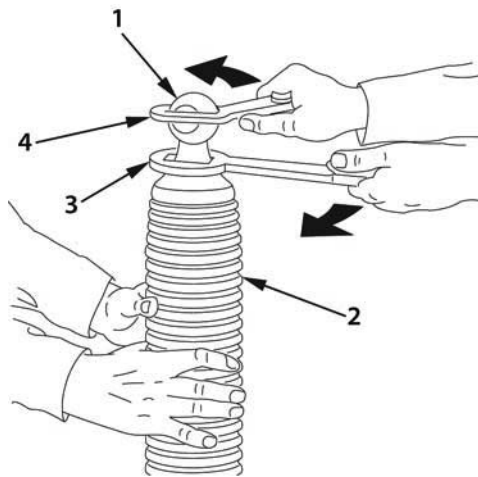

Figure 2. Removal of Breech Plug.
2. Place open end of cannon (Figure 2, Item 2) on flat surface and have one mechanic hold it securely.
3. Position barrel wrench (Figure 2, Item 3) on cannon (Figure 2, Item 2) and position plug wrench (Figure 2, Item 4) on breech plug (Figure 2, Item 1) as shown.
4. Turn barrel wrench (Figure 2, Item 3) clockwise while turning plug wrench (Figure 2, Item 4) counterclockwise.
5. Unscrew breech plug (Figure 2, Item 1) and remove from cannon (Figure 2, Item 2).